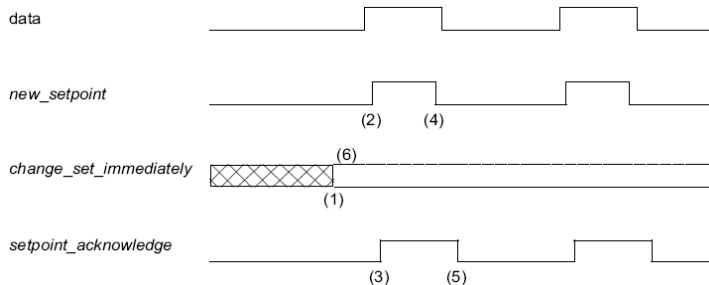
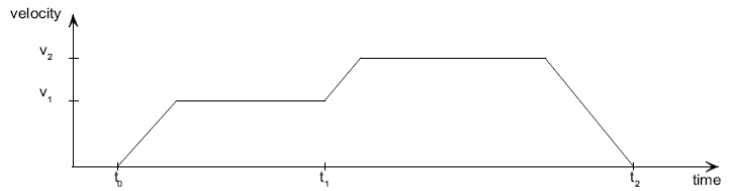

Fig. 6.4 Set-point transmission from a host computer
Fig. 6.6 Change set immediately
If bit 'CHANGE SET IMMEDIATELY' = "0" (full line Fig. 6.4), a SINGLE SET-POINT is expected from the drive (1).
If the bit 'CHANGE SET IMMEDIATELY' is set to "1" (dashed line in Fig. 6.4), the new target position is immediately accepted. In Fig. 6.6 the drive receives the 1st target position at time t_0 . At time t_1 the drive receives the 2nd target position. The drive immediately continues its movement to the 2nd target position.